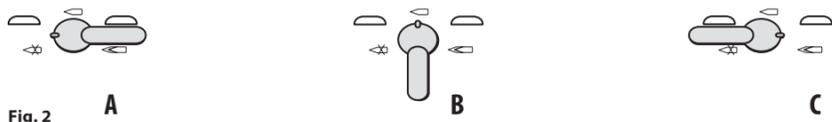

Fig. 2
- Locate the safety/fire selector switch on the left side above the pistol grip (Fig. 2).